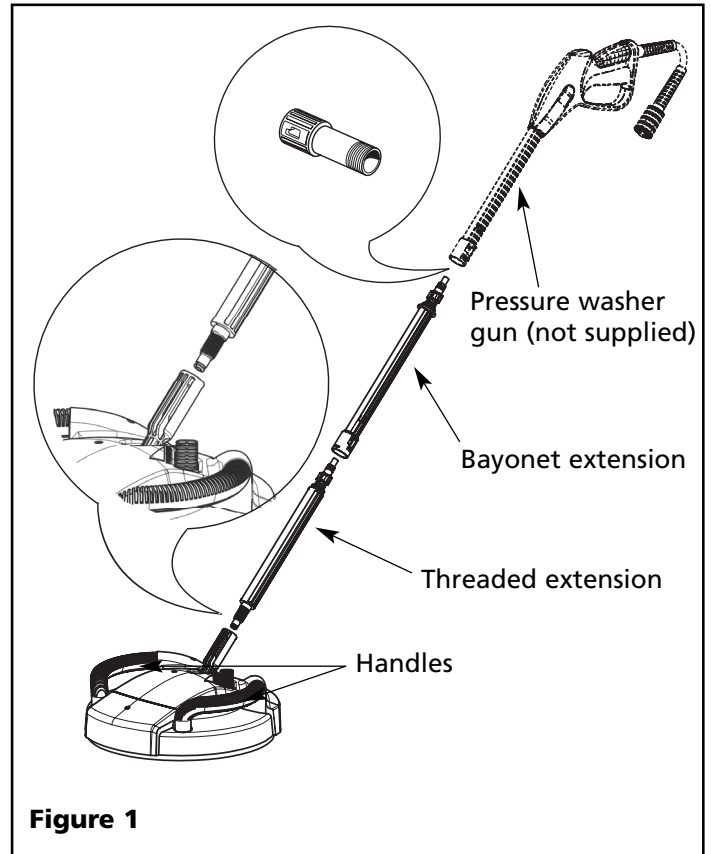

Figure 1
1. Attach threaded extension into surface cleaner base. **Do not overtighten.** Base should rotate easily around extension as shown in Figure 1.
2. Attach bayonet extension to first extension and base. Slide bayonet fitting into extension receptacle. Turn clockwise, as shown in Figure 1.
3. Attach adapter to your pressure washer gun as shown in Figure 1.
4. Attach to pressure washer gun as shown in Figure 1.